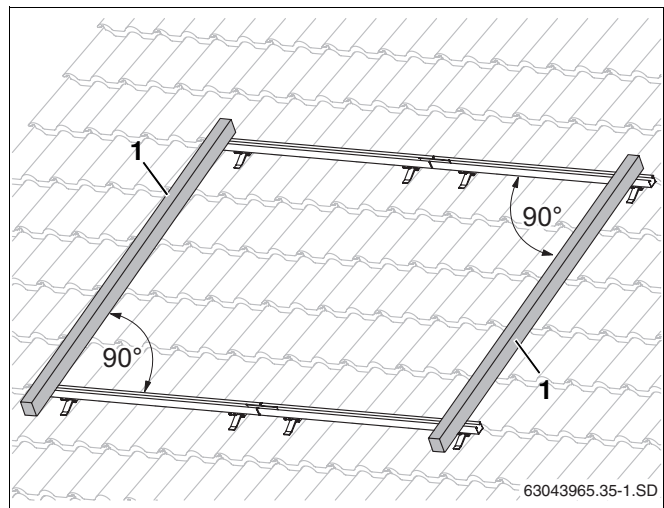

Fig. 33 Aligning the profile rails
- Align the upper and lower profile rails to the side flush with each other and level them (Fig. 33, use a spirit level).
Measure the diagonals or place a roof batten (Fig. 33, **Item 1**), for example, at the ends of the profile rails. The angle between roof batten and profile rail must be 90°. Align the profile rails over the slotted holes.